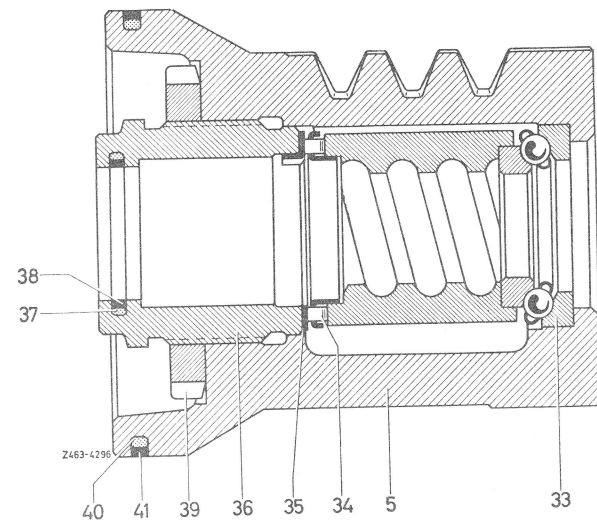

Fig. 14
12 Insert O-ring (37) and sealing ring (38), as well as axial disc (35) into screw cover (36) (Fig. 14).